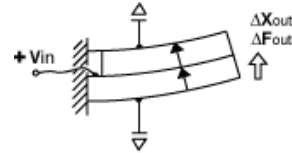

Figure-18: 2-Layer Bending Element Poled for Parallel Operation (3-wire)
**Parallel Operation:** Parallel operation refers to the case where the supply voltage is applied to each layer individually. This means accessing and attaching wires to each layer. A 2-layer bending element wired for parallel operation requires three wires (one attached to each outside electrode and one attached to the center shim), as shown in Figure-18. For the same motion, a 2-layer element poled for parallel operation needs only half the voltage required for series operation.